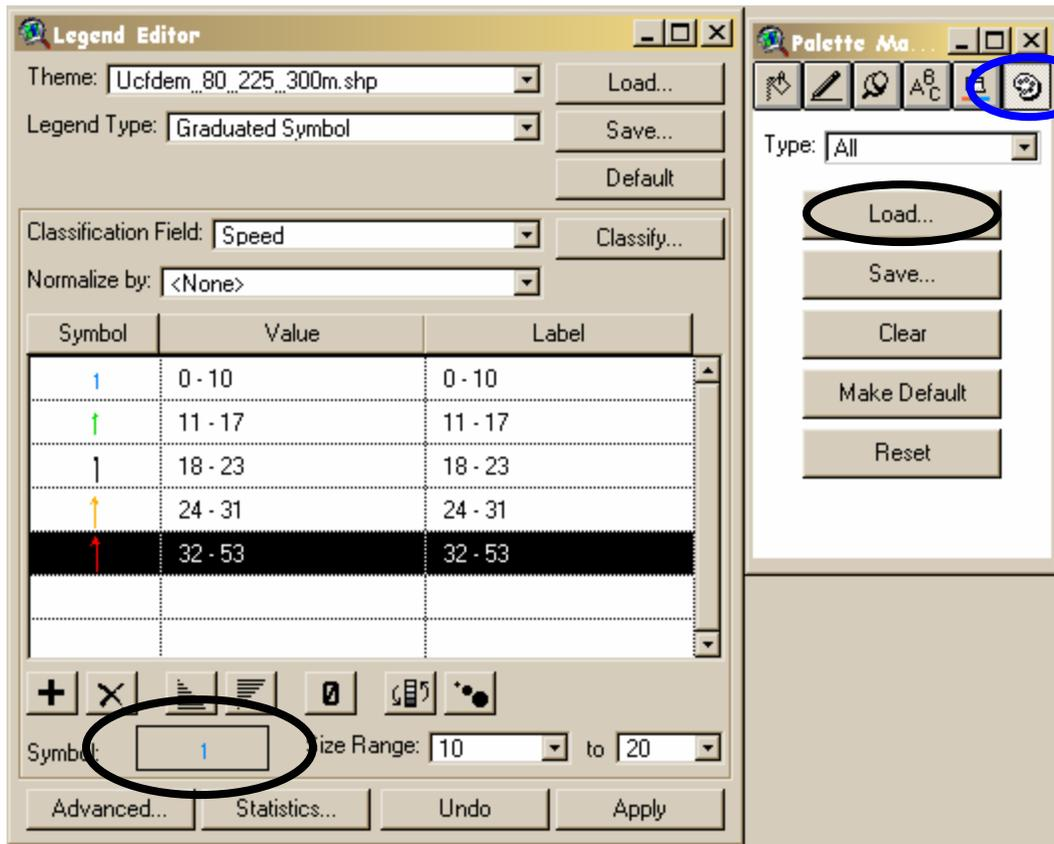
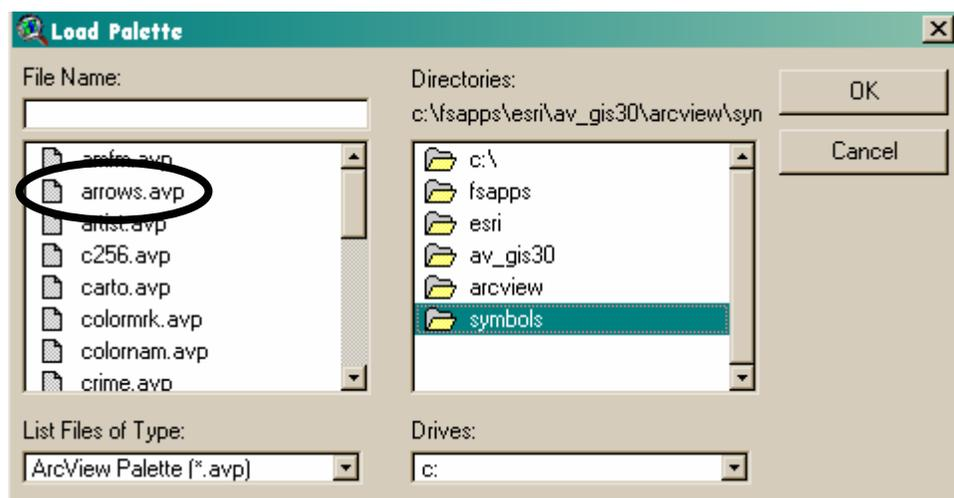

Figure 5.
Figure 6.
- To get an arrow you may need to load the ESRI arrow palette. Double-click on the shapefile in the view to open the **Legend Editor** (Figure 5), then double-click on the **Symbol** type button which will open the **Palette Maker** (Figure 5). Select the palette button (blue circle) then the **Load** button. This will open up the **Load Palette** dialog box in Figure 6.
In Figure 6 you need to navigate to the location that the ESRI arrow palette is stored. On Forest Service imaged machines the path will likely be: